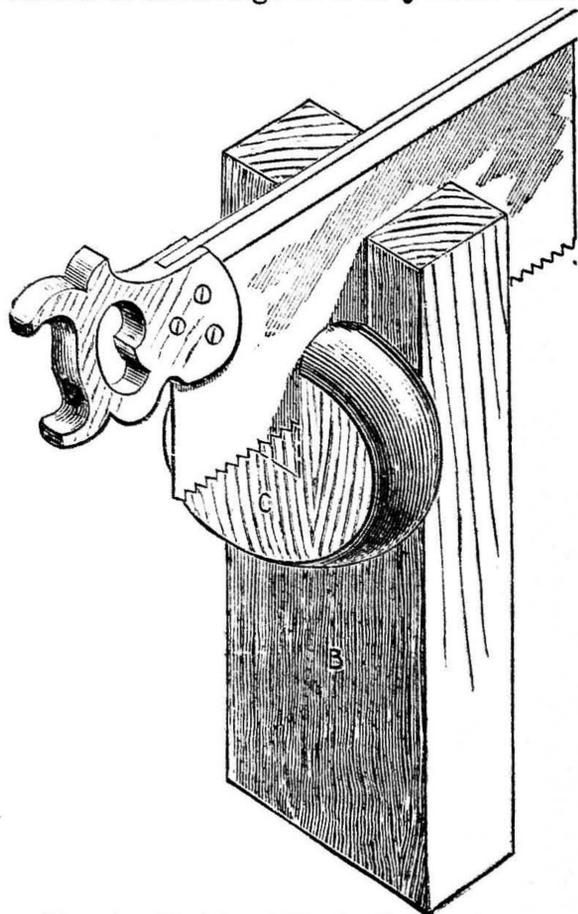

Fig. 11.—Sketch of Block, Cap, and Saw—
*Sketch of Block and Cap.*—At Fig. 11 is shown a view of the block, with the cap fixed and the saw in position. This, it is hoped, will fully explain our meaning with regard to cutting mitre on the cap.